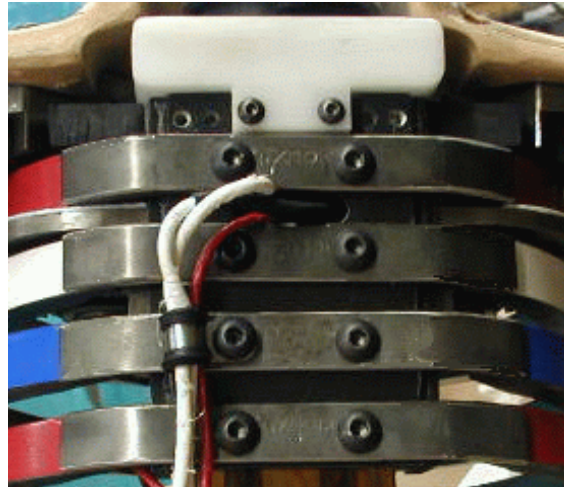

Figure 5.16- Lower neck instrumentation cables
1. Pass the Lower Neck Load Cell instrumentation wires and Neck Pitch Change Tilt Sensor wire (T1SPM200) out through the hole at the top of the Upper Thoracic Spine Weldment (T1SPM100) as shown in **Figure 5.16**.